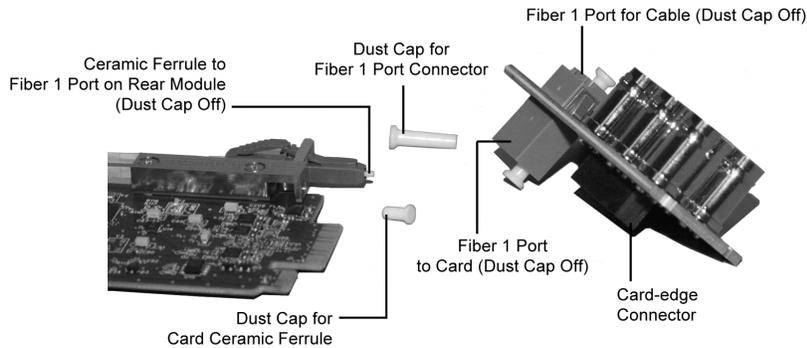

Figure 2.3 Card Connectors with Dust Caps Removed
- Refer to **Figure 2.1** and **Figure 2.3** for dust cap locations.